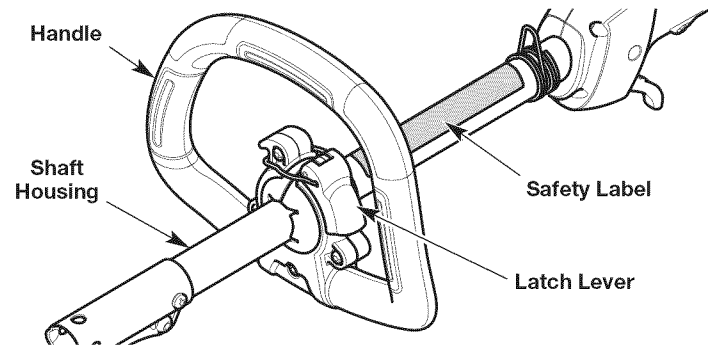

Fig. 7
7. Hold the unit in the operating position (Fig. 15). Move the handle up or down the shaft housing to a comfortable location (Fig. 7). Make sure the handle is positioned beyond the end of the safety label (Fig. 7).
1. Flip the latch lever up to loosen the handle (Fig. 7).
2. Hold the unit in the operating position (Fig. 15). Move the handle up or down the shaft housing to a comfortable location (Fig. 7). Make sure the handle is positioned beyond the end of the safety label (Fig. 7).